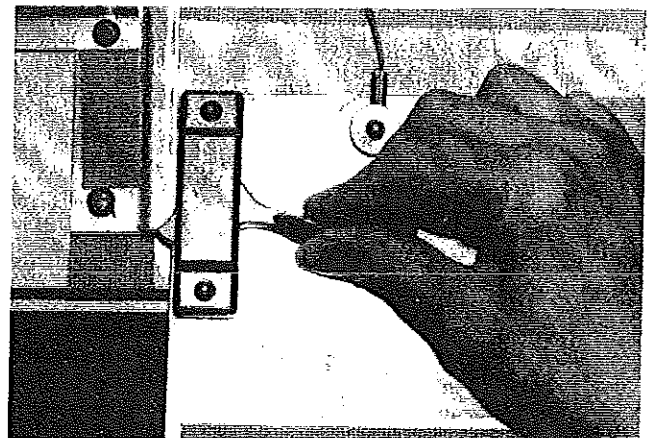

FIGURE 22
27. Fit the top door retainer into position and engage the two retainer locks. See Figure 22.